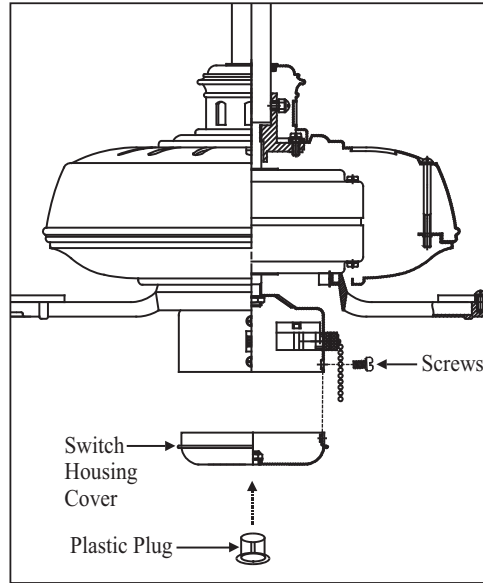

Figure 17
2. Attach the plastic plug to the switch housing cover. (Fig. 17)
3. Install the switch housing cover to the mounting plate with screws provided. (Fig. 17)